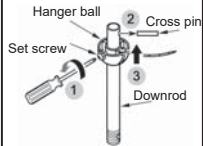

Fig.6
Step 2: Remove the cross pin and set screw from downrod assembly, and slide hanger ball off downrod.(Fig. 6)